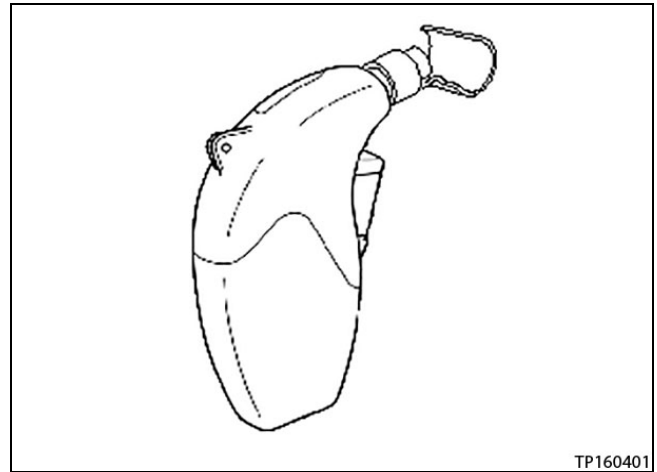

Figure 12
11. “Install” the solder sleeve connector by shrinking it to the wire with essential tool Flameless Heat Gun J-46538 or similar flameless heating tool (see Figure 12 and 13).